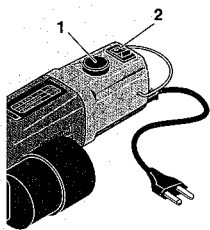

Fig. 2
1. Switch unit on at switch 2 (Fig. 2) and adjust the speed at knob 1 in accordance with the operation.